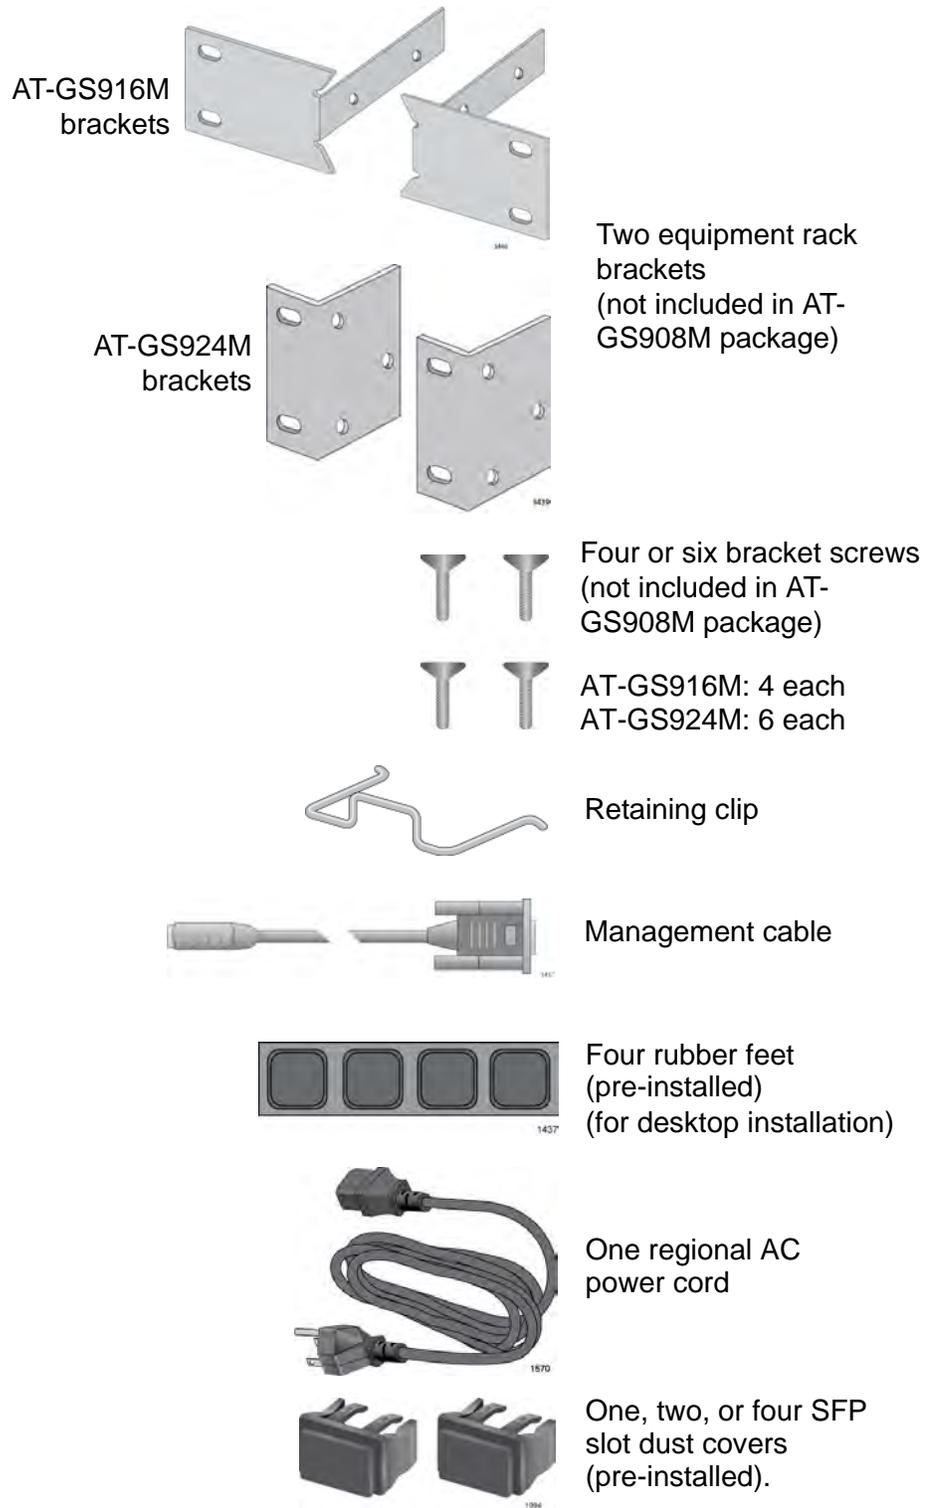

Figure 7. Shipping Package Contents
3. In addition to the switch, verify that the shipping container includes the following items shown in Figure 7 on page 38.